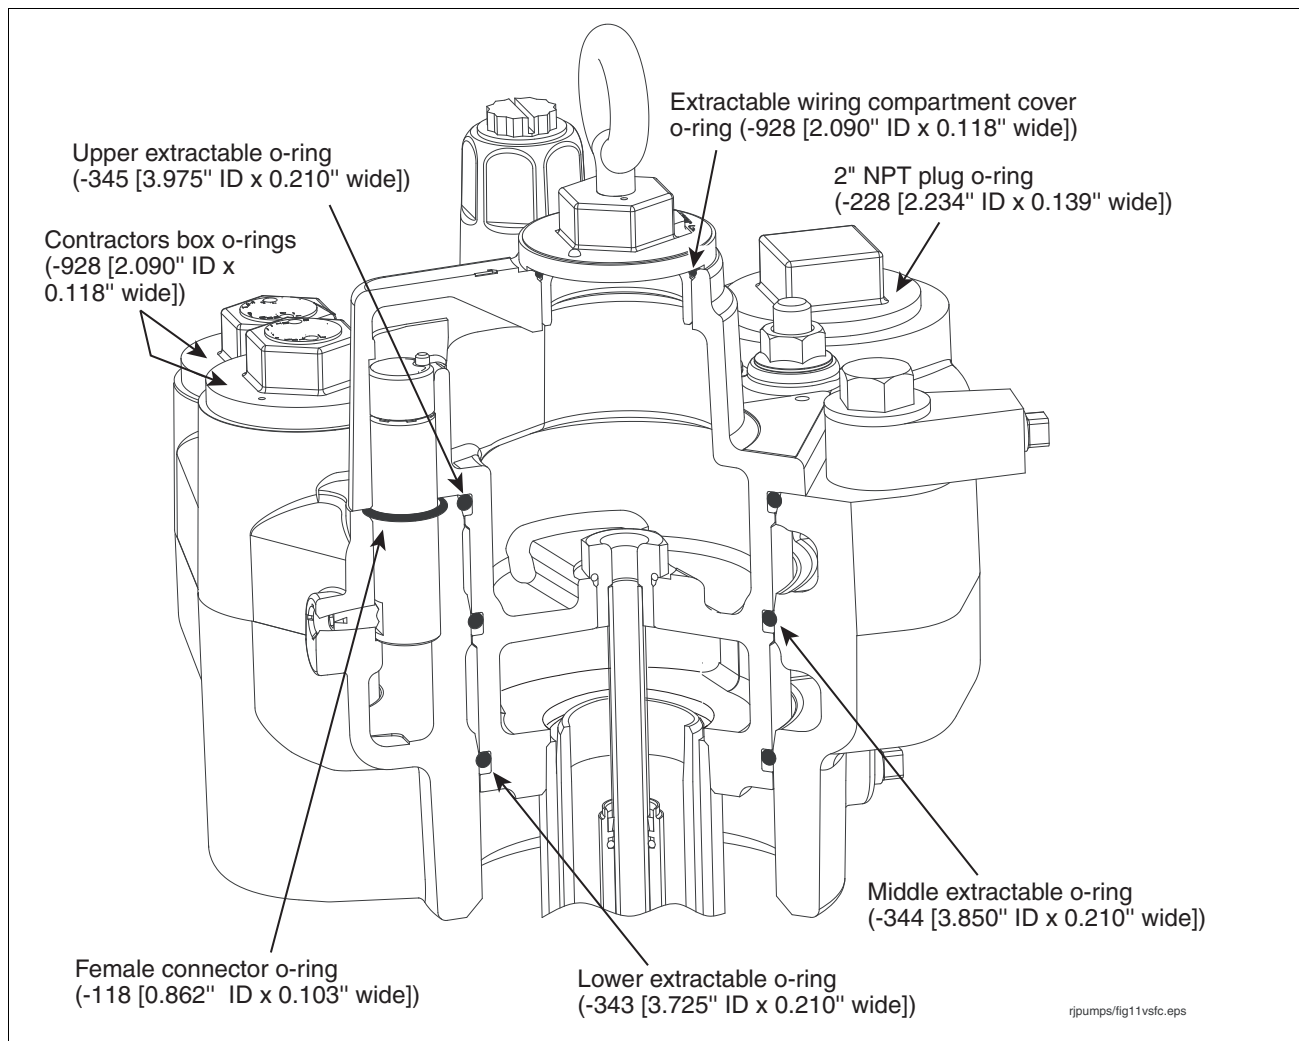

Figure 25. Locating Packer And Manifold O-Rings
9. Get the three extractable o-ring seals (3.975" ID x 0.210" wide [upper], 3.850" ID x 0.210" wide [middle], and 3.725" x 0.210" wide [lower]) from the hardware/seal kit. The three o-rings are very close in size so take extra care to distinguish each one before replacing them in the extractable. Lubricate each o-ring with petroleum jelly and then install them in their assigned grooves in the extractable (see Figure 25).
10. Remove the manifold's female connector's o-ring (see Figure 25). Get a 0.862" ID x 0.103" wide o-ring from the kit and lubricate it with petroleum jelly. Slide the o-ring over the female connector and push it down into its groove.
17. Get the three extractable o-ring seals (3.975" ID x 0.210" wide [upper], 3.850" ID x 0.210" wide [middle], and 3.725" x 0.210" wide [lower]) from the hardware/seal kit. The three o-rings are very close in size so take extra care to distinguish each one before replacing them in the extractable. Lubricate each o-ring with petroleum jelly and then install them in their assigned grooves in the extractable - see Figure 25 on page 26.
18. Remove the manifold's female connector's o-ring - see Figure 25 on page 26. Get a 0.862" ID x 0.103" wide o-ring from the kit and lubricate it with petroleum jelly. Slide the o-ring over the female connector and push it down into its groove.